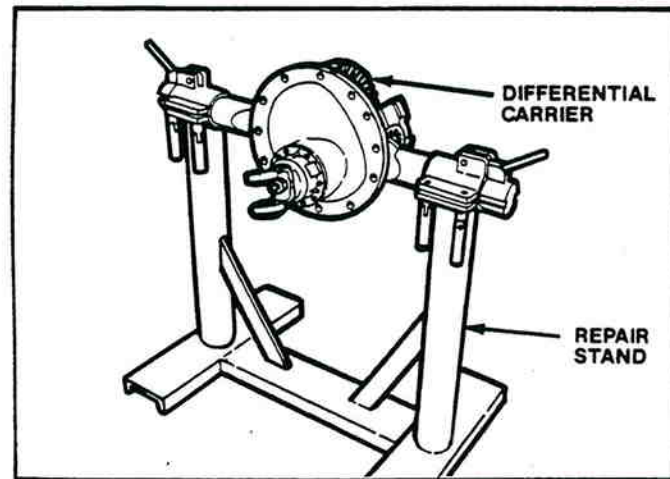

Figure 2-9. Carrier Mounted In Repair Stand.
12. Lift the differential carrier by the input yoke or flange and put the assembly in a repair stand. Figure 2-9 shows the carrier in a stand. Such a stand may be purchased; see tools at end of this section. Do not lift the carrier assembly by hand; use a lifting tool.